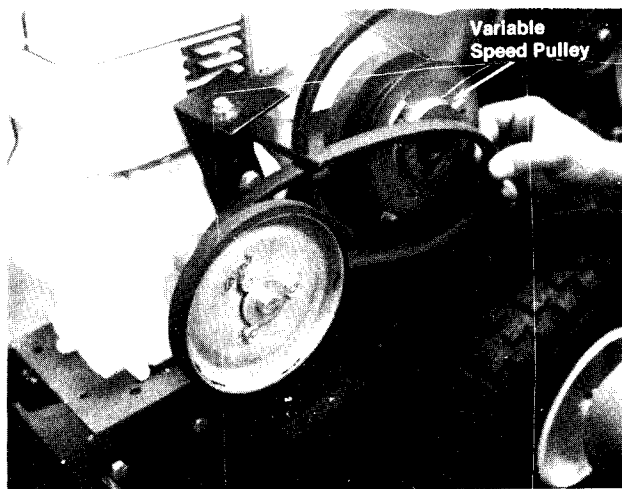

FIGURE 40.
6. Remove the forward belt (short) from the variable speed pulley and slip belt off the engine pulley. See figure 40.